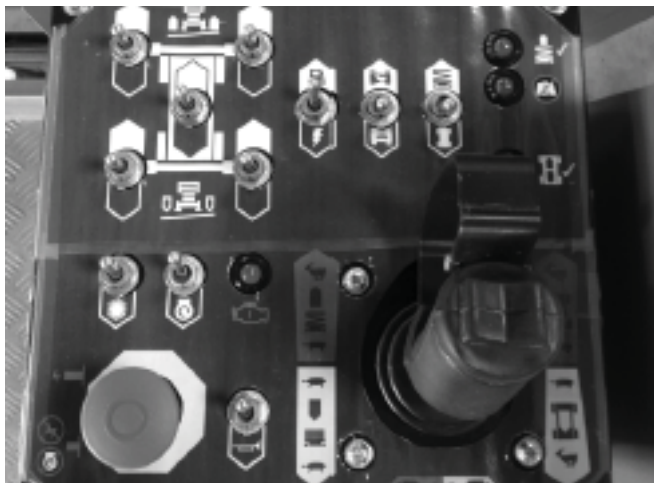

Figure 8.10
2. Set the drive / lift selector (1) (see figure 8.10) to lift.
3. Squeeze and hold the safety control (5) against the joystick controller (3) (see figure 8.10).
4. Push the joystick controller (3) forward to raise the platform, or pull it backward to lower it. The further you push the joystick controller (3) forward the faster the platform rises. There is only one (1) lowering speed.